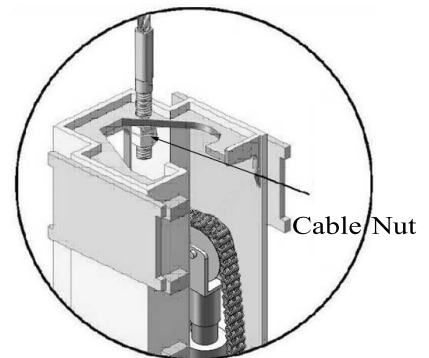

Fig. 35
1. Adjust synchronous cable (See Fig. 35)